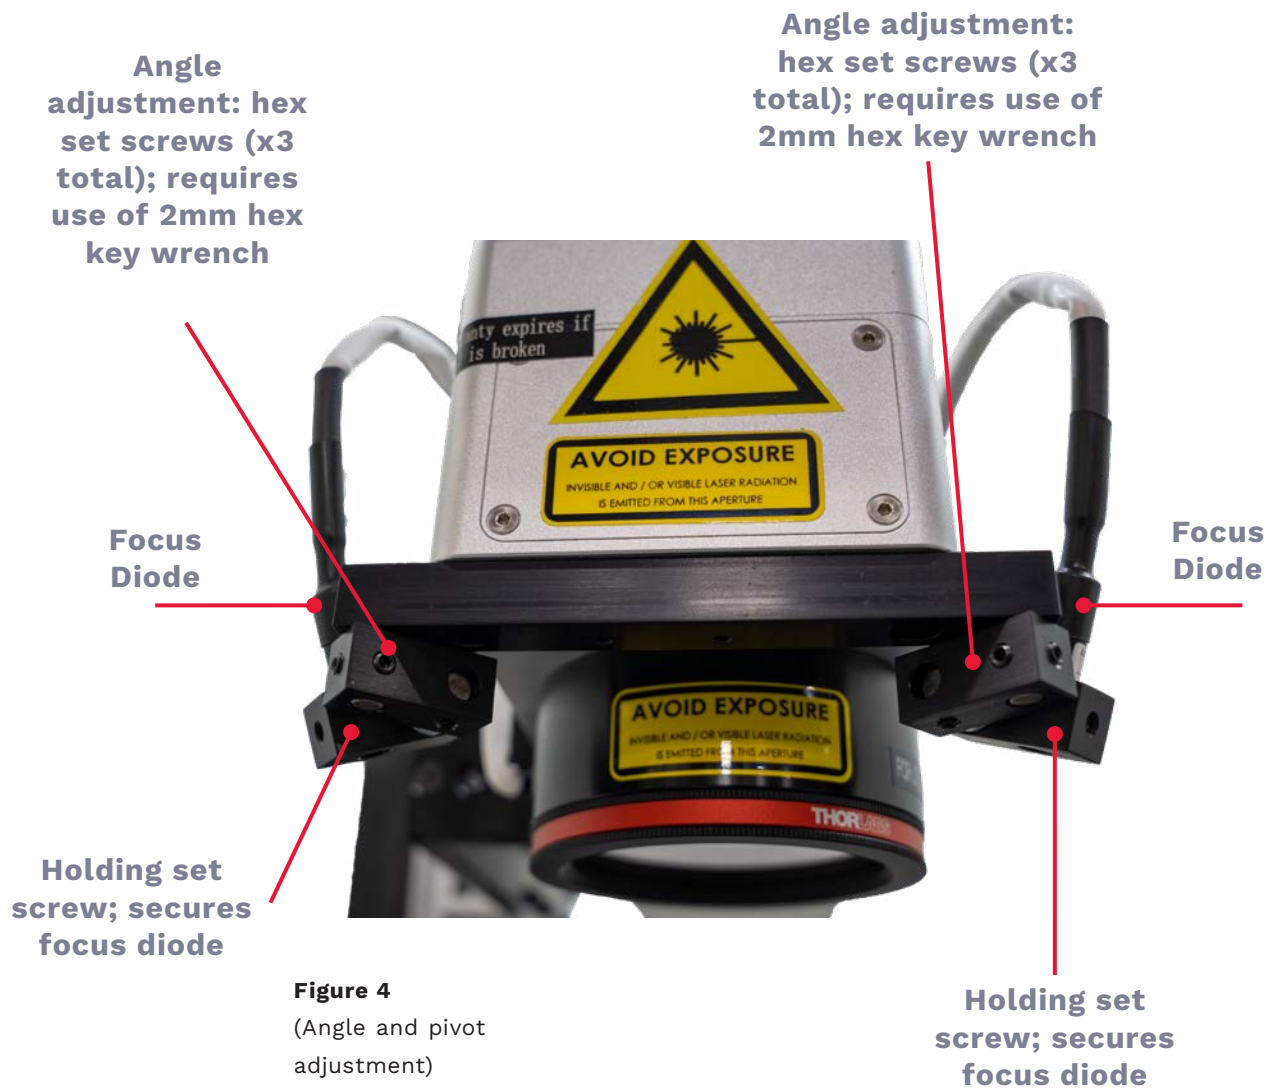

Figure 2
4. Using the default material, set the loop count to a minimum of ten (10) or enable the repeat function (navigate to utilities; select the repeat icon).
7. Move the lab stand up and down to find an ideal position; this is the location where the laser marks most accurately (reference **figure 2** and **figure 3**).